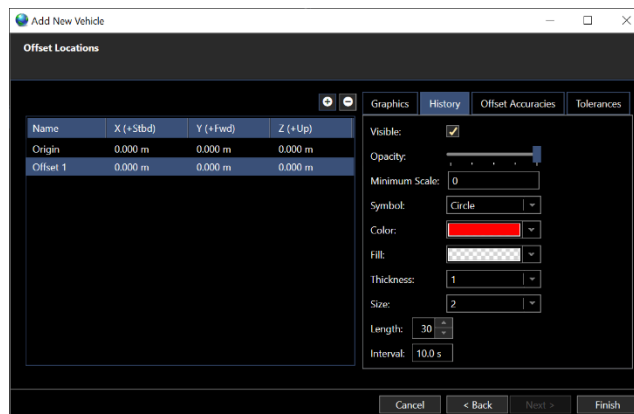

FIGURE 7-19 VEHICLES - NEW VEHICLE WIZARD - OFFSET LOCATIONS PAGE - HISTORY TAB
- e. Edit the **History** (see Figure 7-19), this controls the capture and display of a history (snail trail) of points in any open Map view